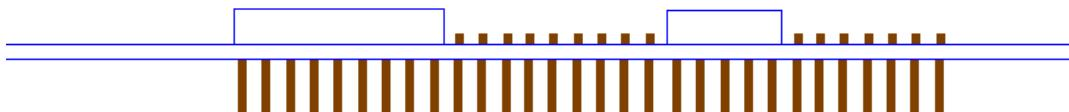

Figure 68     Stacked w/Signal Stealing Expansion Connector
**Figure 68** is the connector configuration for stackable capes that does not provide all of the signals upwards for use by other boards. This is useful if there is an expectation that other boards could interfere with the operation of your board by exposing those signals for expansion. This configuration consists of a combination of the stacking and non-stacking style connectors.